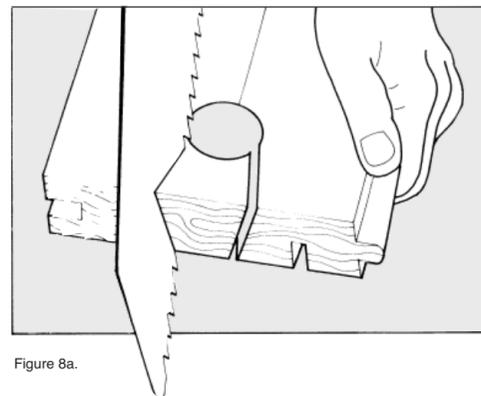

Figure 8a.
2. Radiator Pipes (Figs. 8a and 8b)